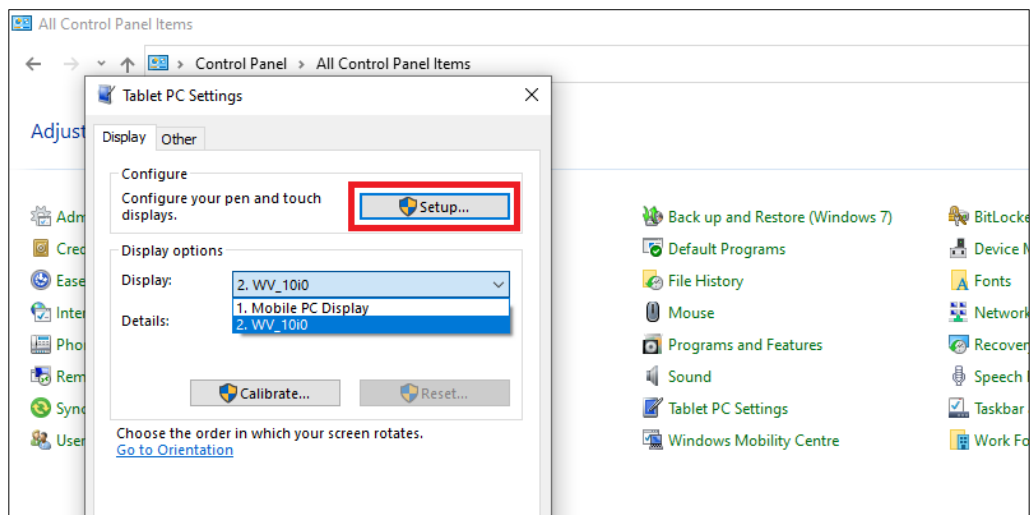

Figure 24: "Tablet PC Settings" dialogue – Setup.
- 4 Click on the "Setup" (see Fig. 24),